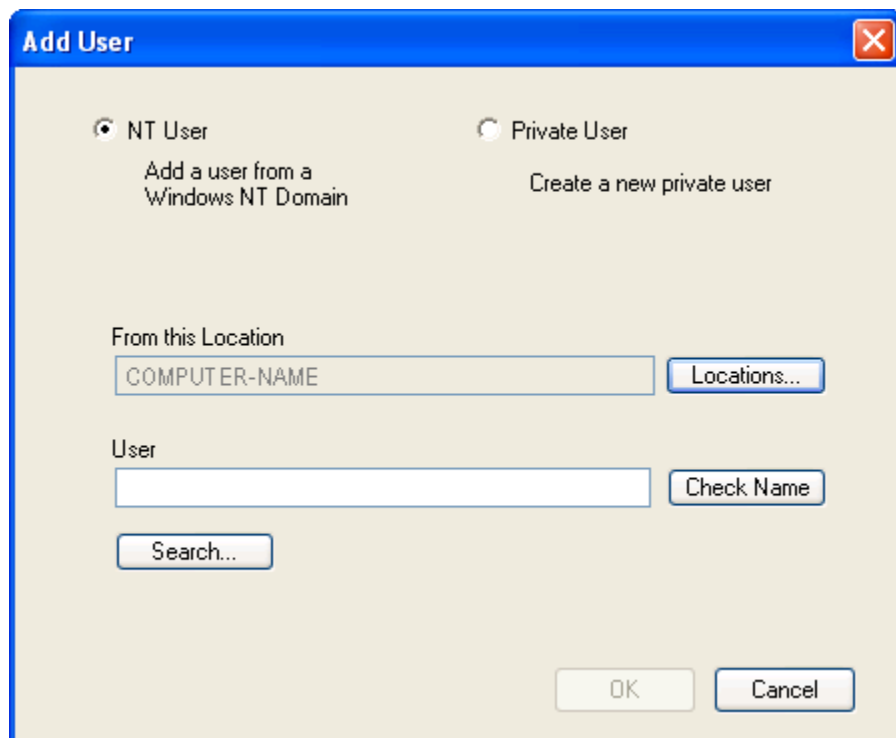

Figure 59 - Add User Window (NT)
2. The **Add User** window (Figure 59) appears. The **NT User** option button is selected by default. This will allow the addition of a user from a Windows NT Domain.
2. The **Add User** window (Figure 59) appears.